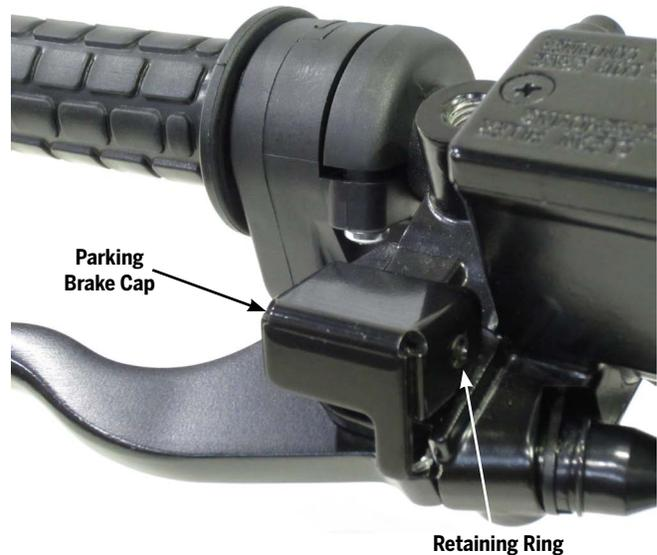

Figure 89: Retaining Ring
- a. Using a flathead screwdriver, remove the retaining ring (**Figure 89**).